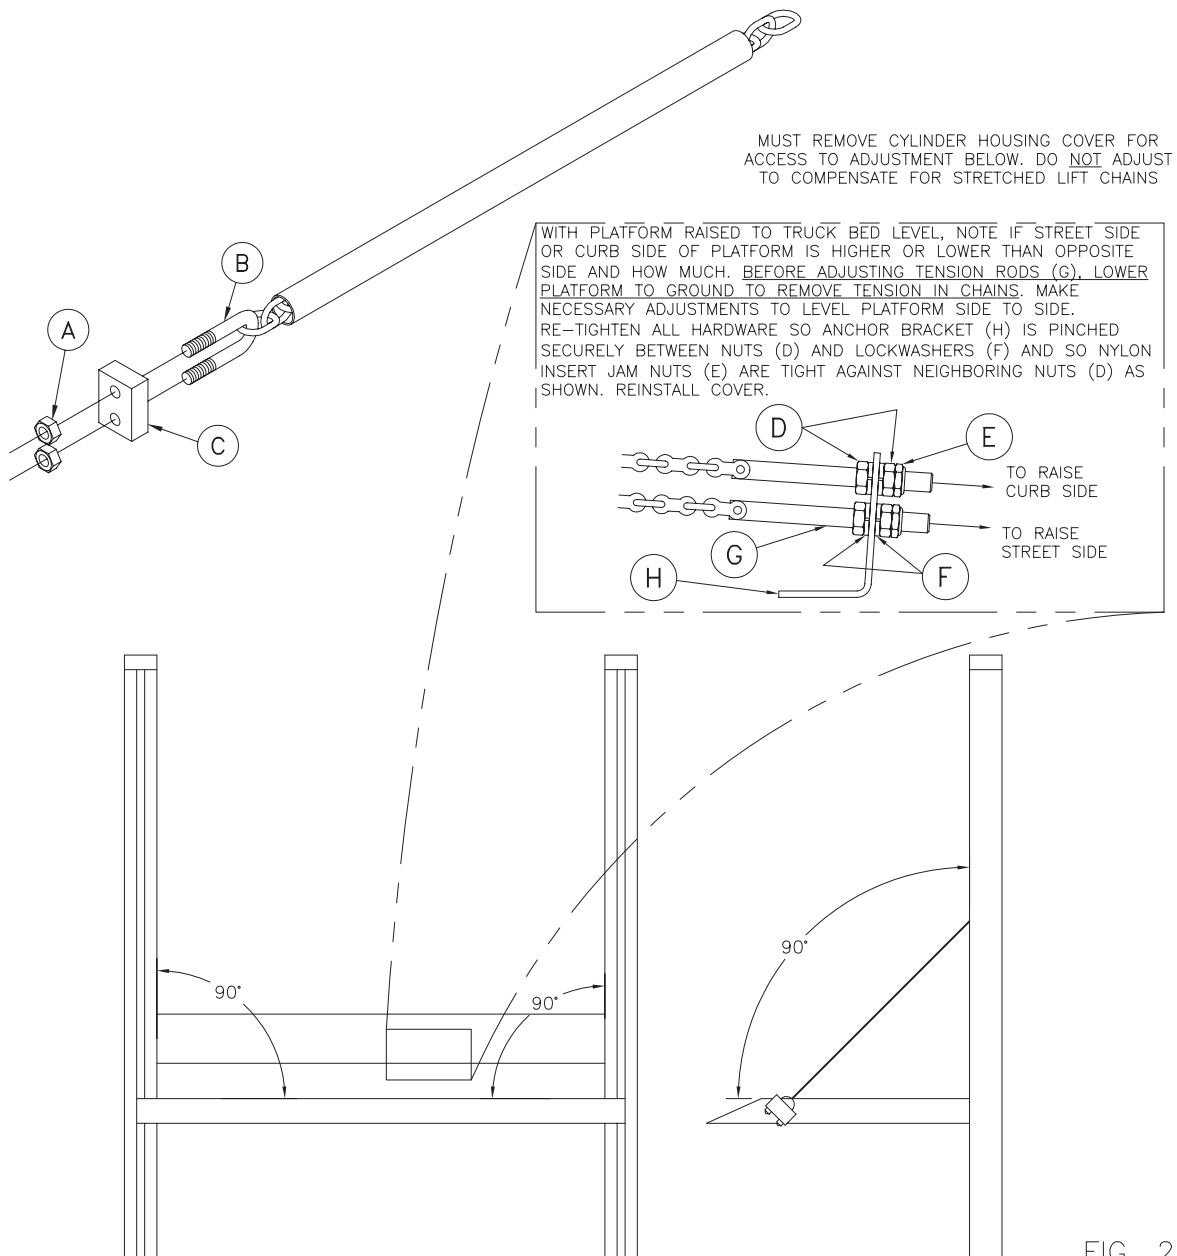

FIG. 2
2. Check that the platform is level front to back and side to side when raised to bed height. If front to back adjustments are necessary, this can be done by adjusting nuts (A) on U-bolt (B) on platform block (C). See figure 2. If side to side adjustments are necessary, this can be done by adjusting nuts (D), nylon insert locknuts (E), and lockwashers (F) on tension rods (G) on anchor bracket (H). See figure 2.